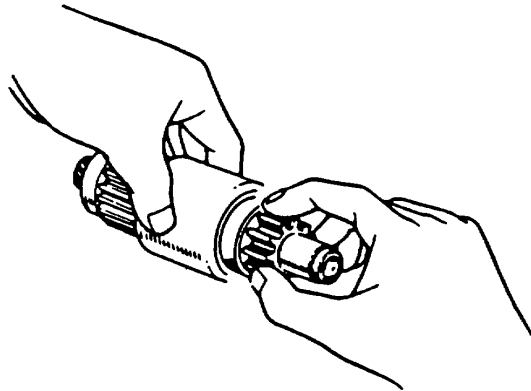

FIGURE 3-31. Checking Overrunning Clutch
- i. Check that overrunning clutch rotates freely in direction of starter rotation and that it will be locked when trying to rotate in opposite direction, refer to FIGURE 3-31.